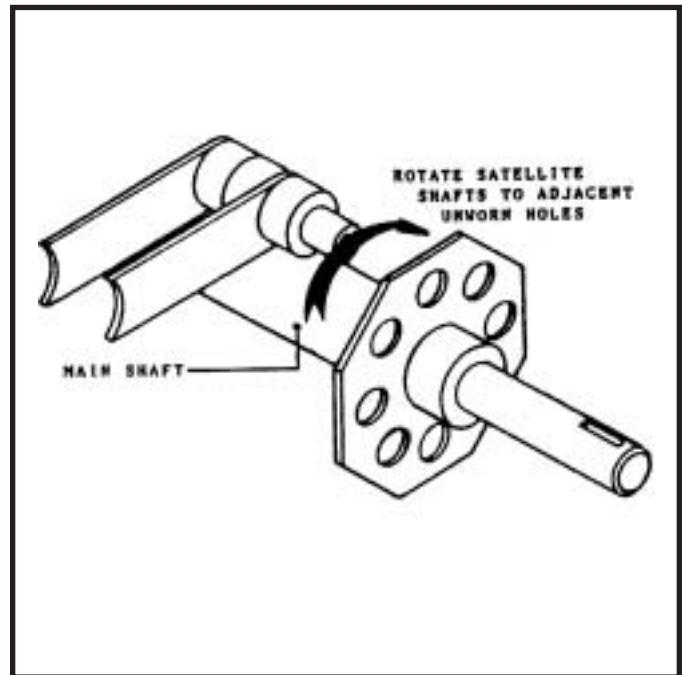

Figure 8
Extra holes in the Main Shaft are provided for longer life of the Main Shaft. If the hole holding the satellite shaft becomes distorted, rotate all four (4) satellite shafts to the next adjacent hole. See Figure 8.